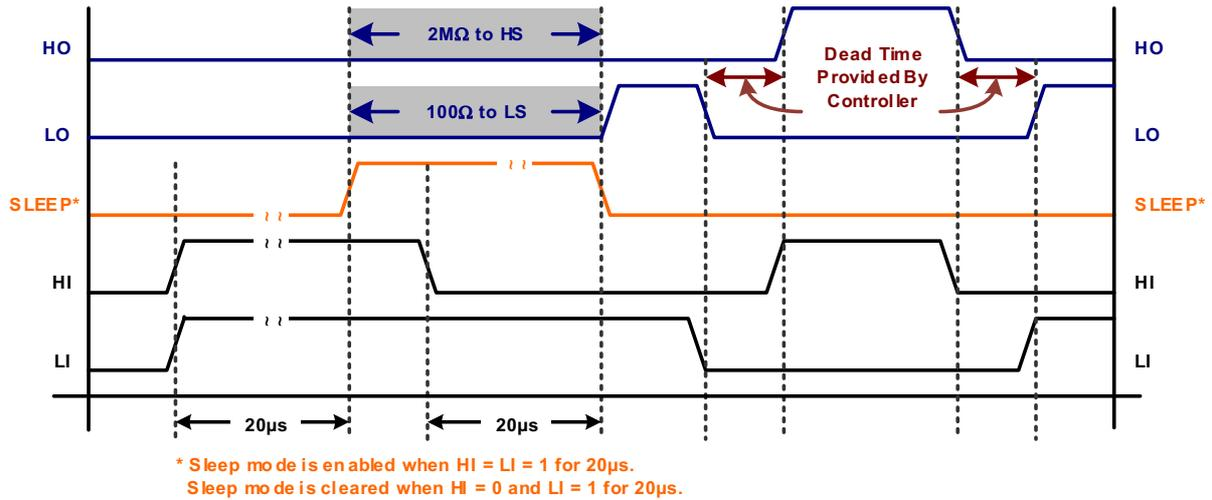

Figure 7. Sleep Mode Enabled or Cleared by HI and LI Inputs
14. When HI and LI are on simultaneously, HO and LO are never on simultaneously. This feature is intended to initiate sleep. This feature cannot be used to prevent shoot-through for normal alternating switching between LI and HI. Dead time must be provided when HI = 0 -> LI = 1, or LI = 0 -> HI = 1. See Timing Diagrams (Figure 7 on page 13).